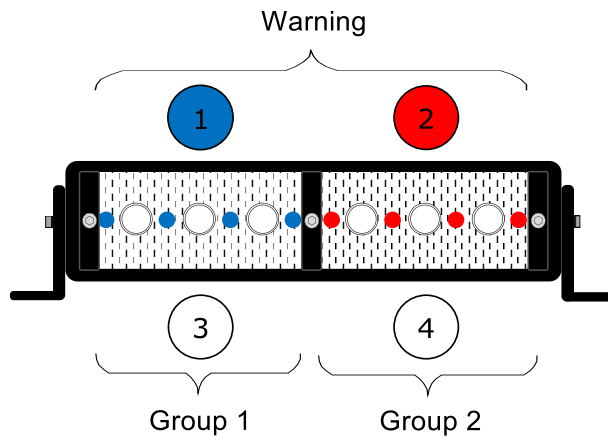

Figure 1. TRT-10x-DW1-1 (Blue/White and Red/White lamps used for illustration only, they could be any Color/White lamps.)
The TRT-10x-DW1-1 models consist of 2 lamps. Both lamps are Color/White lamps. See Figure 1.
**Orange Wire** – Activates the Group 1 white lamp. See Figure 1.
**Blue Wire** – Activates the Group 2 white lamp. See Figure 1.
**Brown/White Wire** – Activates the warning patterns using the Warning lamps. See Figure 1.
**Brown Wire** – Activates one Steady lamp at Warning position 2. See Figure 1.